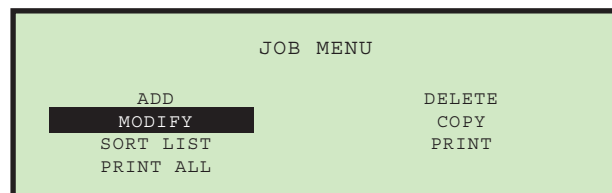

Figure 51: Job Menu screen
2. On the SUPERVISOR screen (see Figure 24), use the arrows to select JOB MENU and press Enter. The Job Menu screen appears (Figure 51).